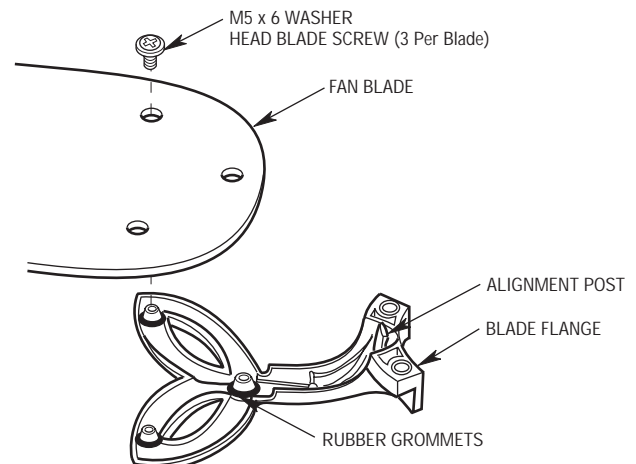
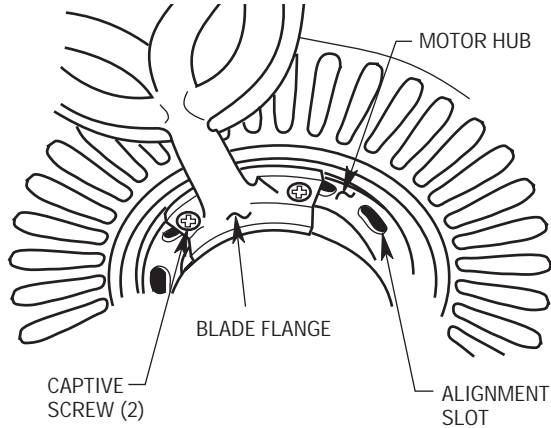

Figure 12
Figure 13
- Make sure the three rubber grommets are firmly seated on each of the blade flanges. Then mount the blade flanges to the fan blades using three M5 x 6 washer head blade screws per blade (Figure 12).
- 2. Mount one blade assembly to the motor hub by mating the alignment post (Figure 12) of the flange with one of the alignment slots in the motor hub (Figure 13). Then tighten the two captive screws in the flange to secure the flange to the motor hub. Repeat this procedure for the other four blade assemblies. Make sure all screws are tightened.